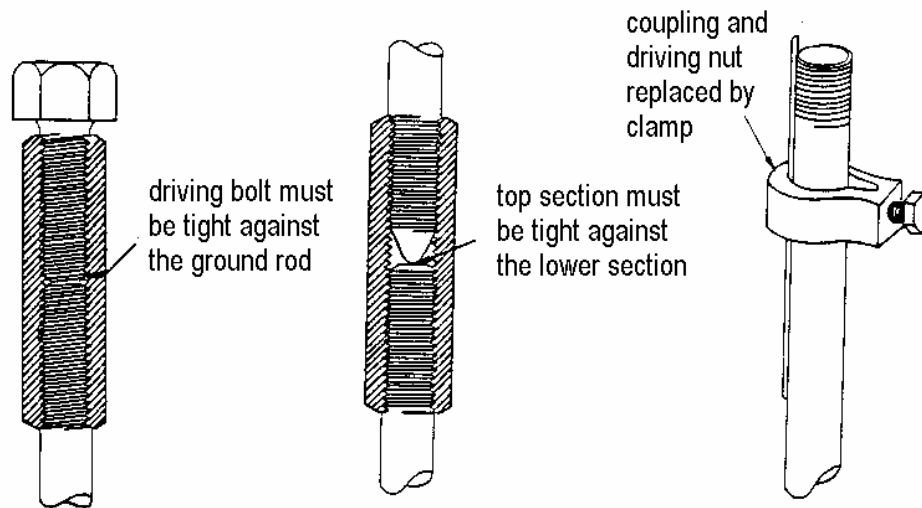

Figure 10 - Ground rod components and assembly
- c. Drive the rod through to the moist subsoil. The ground rod should be installed straight if possible, but can be installed up to an angle of 45 degrees. Allow about 3 inches of the rod to protrude above the bottom of the hole. When installing a multiple section ground rod, ensure that top section is tight against the lower rod to prevent damage to the coupling sleeve threads. Similarly, the driving bolt should be tight against the lower rod (see figure 10). Be careful not to hit the threaded end of the rod section with the hammer, or damage the threads in any other way. A slide hammer (NSN 5120-01-013-1676) can make the task of installing and pulling out a multiple section ground rod easier and safer.